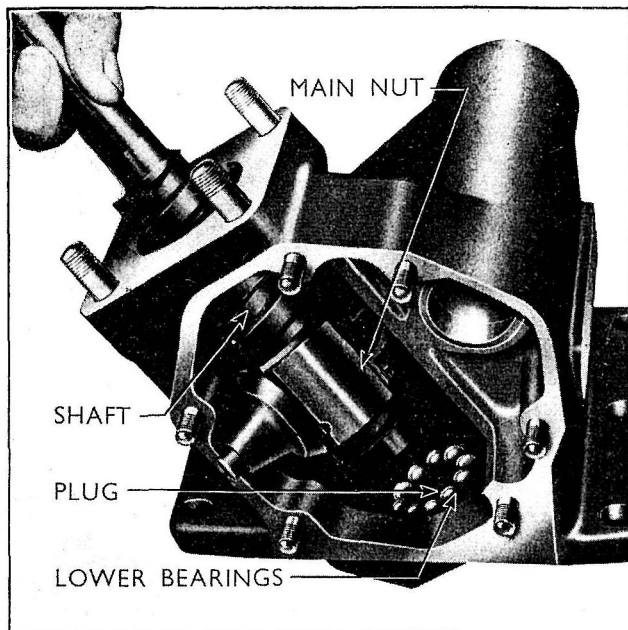

Fig. 219
- 5 Enter the shaft through the side cover aperture and position it so that the end of the worm is seated in the lower ball bearings (see Fig. 219).